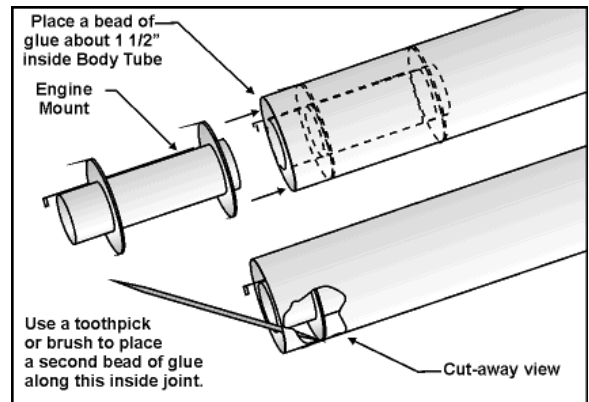

Figure 7
- NOTE:** You may wish to practice this step before using glue. To install the Engine Mount, smear a thin film of white glue about $1\frac{1}{2}$ " inside one end of the Body Tube. **QUICKLY** slide the Engine Mount Assembly into the tube until the end of the Engine Tube is flush with the bottom of the Body Tube, as shown in **Figure 7**. Perform this step swiftly to prevent having the Engine Mount glued in the wrong position! When done, use a toothpick to run a bead of glue along the inside joint between the Engine Mount and the inside of the Body Tube.